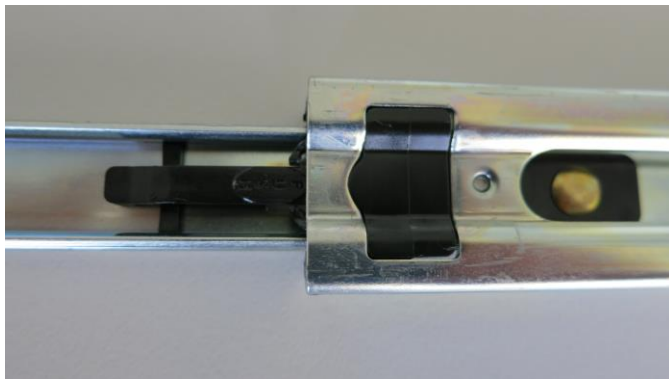

Figure 70 – Separate rack slides
2. Separate the slide rail assembly, pressing the black plastic clips on the slide rails to remove the inner section of the rail. (Refer to Figure 70).